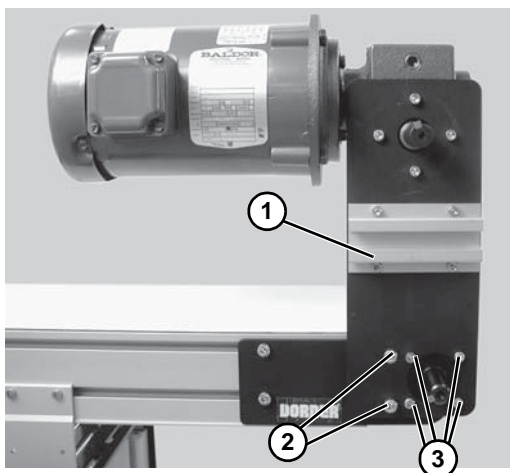

Figure 8
4. Apply anti-seize to motor shaft before assembling to gearbox. Attach mount assembly (**Figure 8, item 1**) with two (2) M8 screws (**Figure 8, item 2**) and four (4) M6 screws (**Figure 8, item 3**). Tighten M6 screws to 146 in-lbs (16.5 N-m) and M8 screws to 288 in-lbs (32.5 N-m).